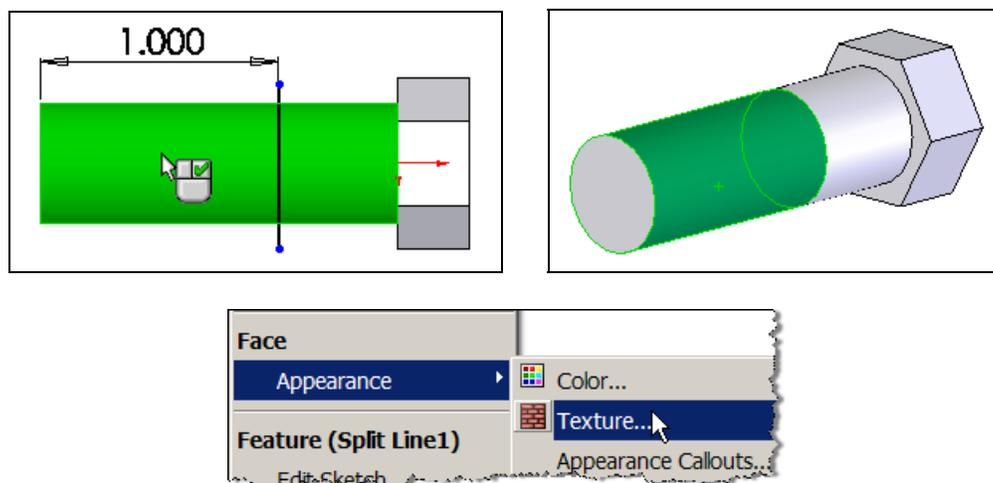

Figure 2 Selecting the surface to texture as a thread
4. Right click on the thread surface side of the surface split, click **Appearance→Texture** to open the **Selection** panel, as shown in Figure 2.